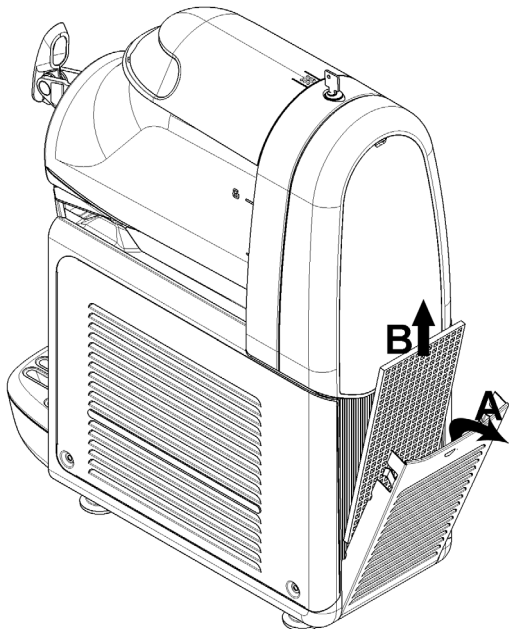

figure 14
**3 Every month:** remove the dust from the condenser filter on the back of the machine (see figure 14).